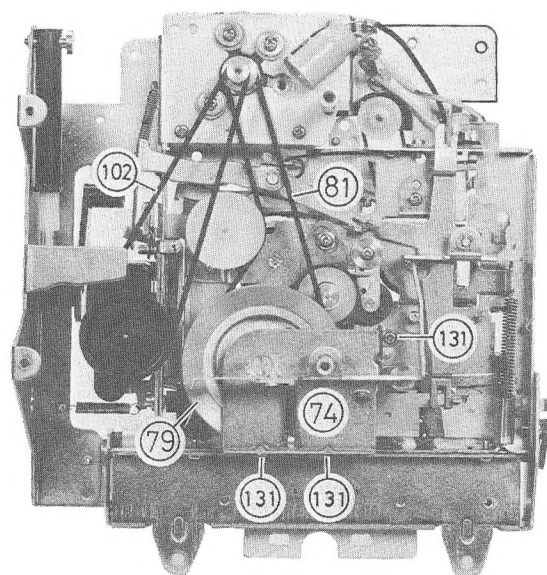

Fig. 22
**G. Capstan Belt (81) (Refer to Fig. 22)**
1. Remove the flywheel holder (74) by removing 3 screws (131).
2. Detouch the shut-off belt (102).
**H. Flywheel (79) (Refer to Fig. 22)**